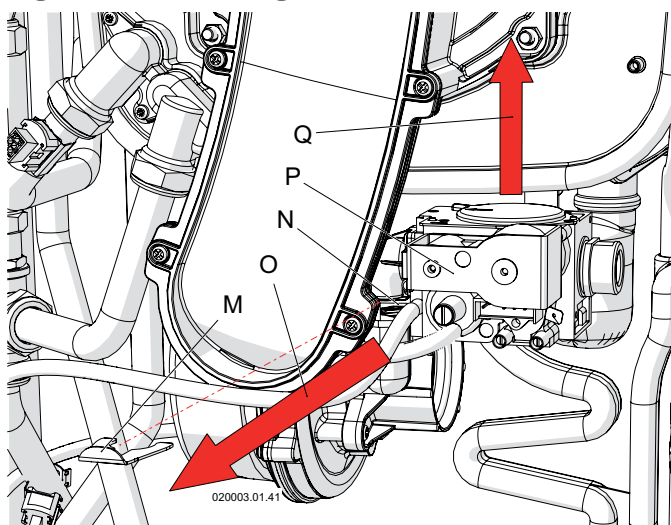

Figure 6.3 - Removing the gas valve
- 16 - remove the clamping spring "M" from the seat "N" releasing the valve "P" (See figure 6.3);
- 19 - remount the gas valve (see figure 6.3, detail "P"), making sure to reposition the spring "M".